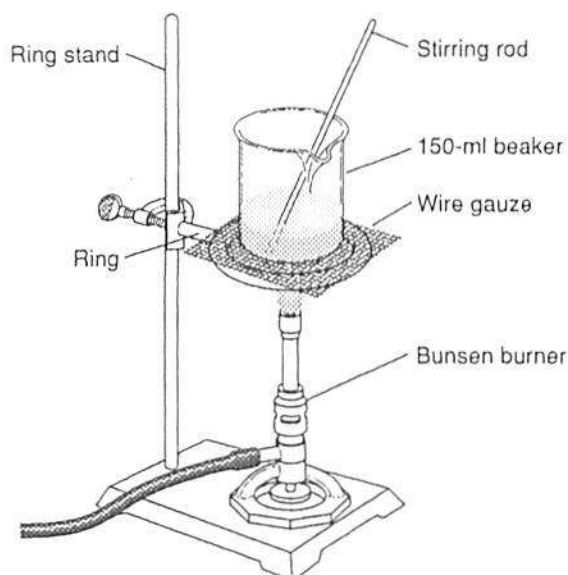

Figure 4
9. To heat larger amounts of water use the set-up shown in **Figure 4**. Assemble this apparatus now for use in the next part of your investigation. Place the bottom of the beaker exactly 15.0 cm above the top of the Bunsen burner. Also measure the distance of the ring from the surface of the lab bench as a reference for future adjustments of the ring height.